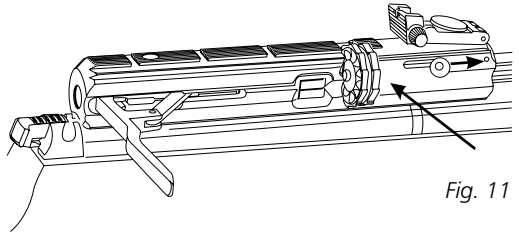

Fig. 11
4. Push forward the magazine release bolt and assemble back the loaded magazine. Then release the magazine release bolt so that it locks. (Fig. 11). If necessary rotate the magazine counter-clockwise until its movement is arrested by the magazine stop.